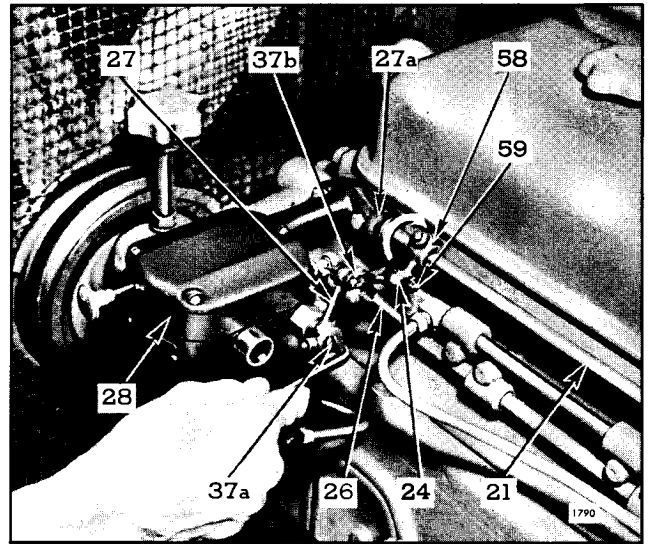
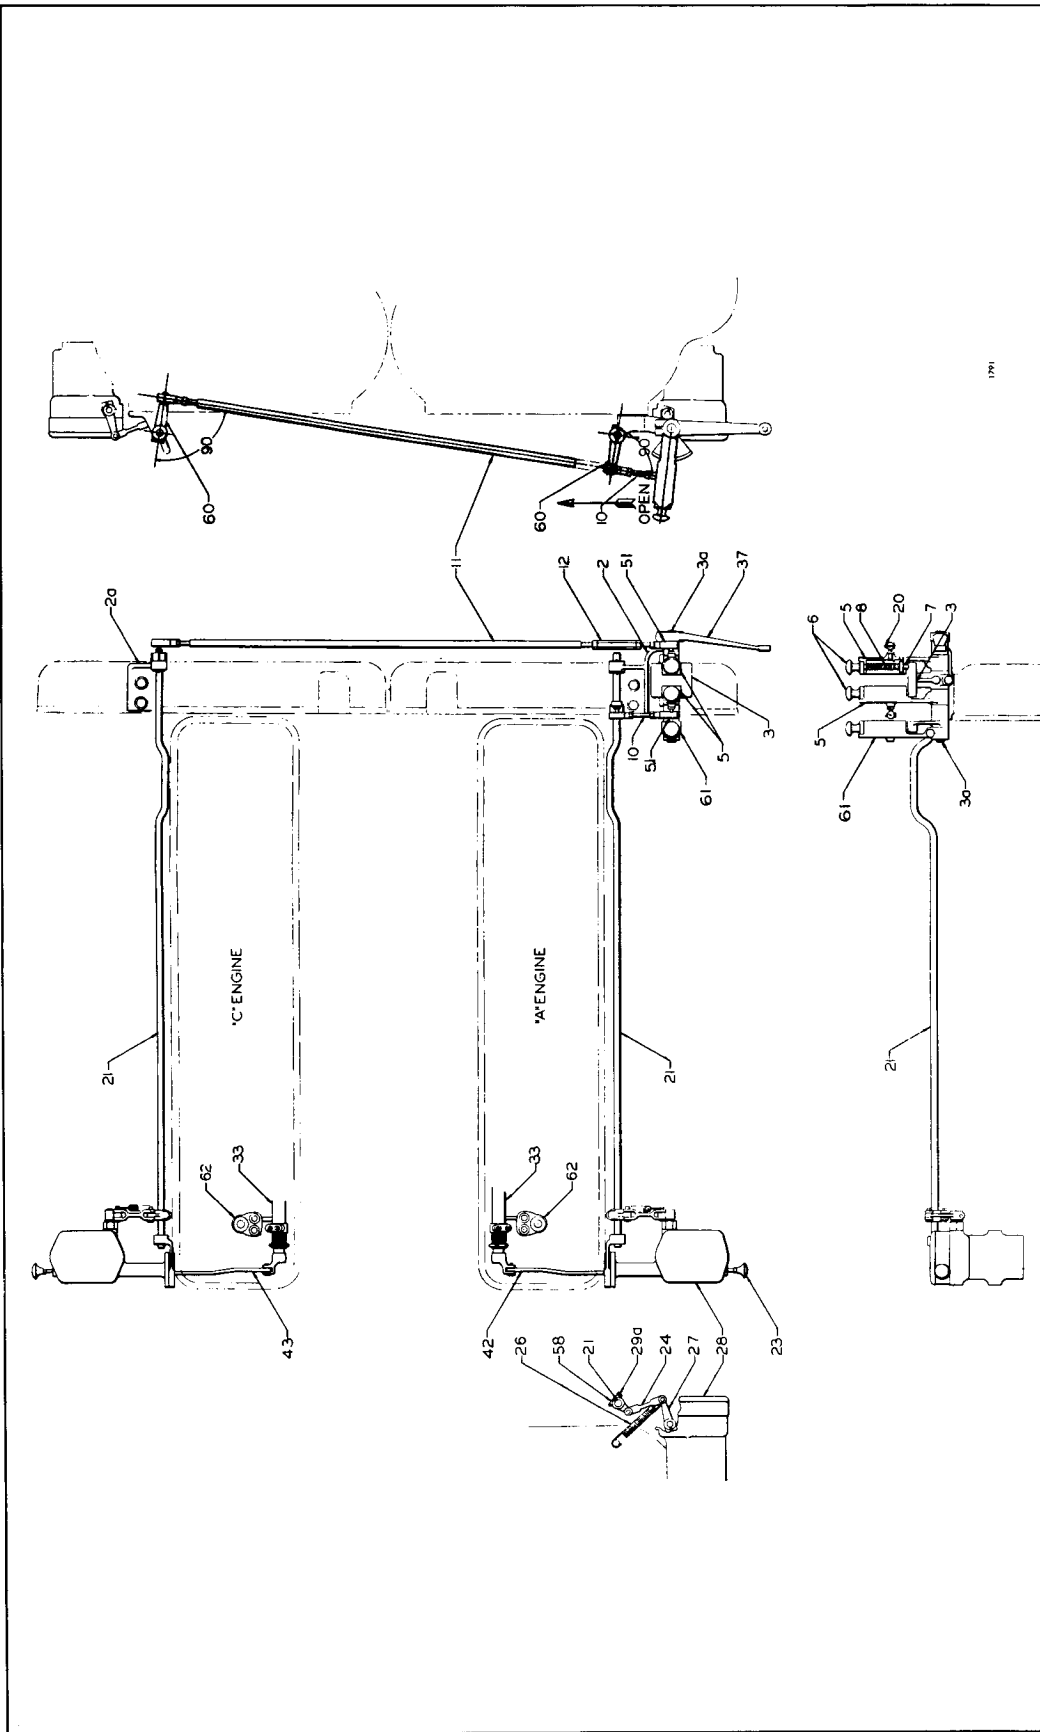

Fig. 13 - Setting Hydraulic Governor Speed Adjusting Shaft and Position of Throttle Control Rod Lever on Throttle Control Rod
Fig. 14 - Throttle Control Adjustment Diagram for Twin Industrial Units Using Constant Speed Hydraulic Governors
Illustrated in Fig. 14 is the throttle control adjustment diagram applicable to Twin industrial units equipped with hydraulic governor.
Having checked the individual engines according to the tune-up procedure for engines equipped with hydraulic governors, as previously outlined, refer to Fig. 14 and carry out the throttle adjustments for load equalization as follows:
2. Refer to Fig. 14 and set the unit throttle lever (61) in the IDLE position in its quadrant (3) and lock the individual throttle levers (5) in their quadrant (3). Loosen clamp bolt in quadrant (3) and move levers (5) to a vertical position, then tighten clamp bolt.
3. With the throttle levers set as in item "2" above, the throttle control rod levers (60) at back end of rods (21) should be at right angles to the rods (10) and (11) leading from the throttles (5) to levers (60), as shown in Fig. 14, when the bends in throttle rods (21) are straight up. If levers do not set at right angles to rods, loosen clamp bolts in levers (60) at both engines and adjust the length of rod (10) on the "A" engine and rod (11) on the "C" engine to bring levers at right angles to the rods.
- To adjust length of rod (10), remove the ball joint from lever (60); then adjust rod length as required. The length of rod (11) may be adjusted by the turnbuckle (12) without disconnecting ball joint from lever.
4. With throttle levers still set as in item "2" above, refer to Fig. 13 and loosen clamp bolt in throttle control rod levers (58), on both engines, and move outer end of levers up as far as possible to remove all lost motion between rods (21) and levers (58).
5. With unit throttle lever (61), Fig. 14, still in IDLE position and the individual throttle levers
(5) in IDLE position, start engines. If engines will not start, loosen clamp bolt in governor control lever (27) and turn the speed adjusting shaft (37a) slightly with an offset screwdriver as shown in Fig. 13. Turning the shaft counter-clockwise on the "A" engine governor increases the engine speed, and turning the shaft clockwise on the "C" engine governor increases the engine speed.
6. With engines warmed up to operating temperature, move unit throttle lever (61), Fig. 14, to the RUN position and lock it in its quadrant (3).
7. Again using an offset screwdriver, as illustrated in Fig. 13, turn the governor speed adjusting shaft (37a) to such position that each engine is running 80 r.p.m. higher than the full load speed as recorded by a tachometer. Tighten clamp bolt in speed adjusting shaft (37a).